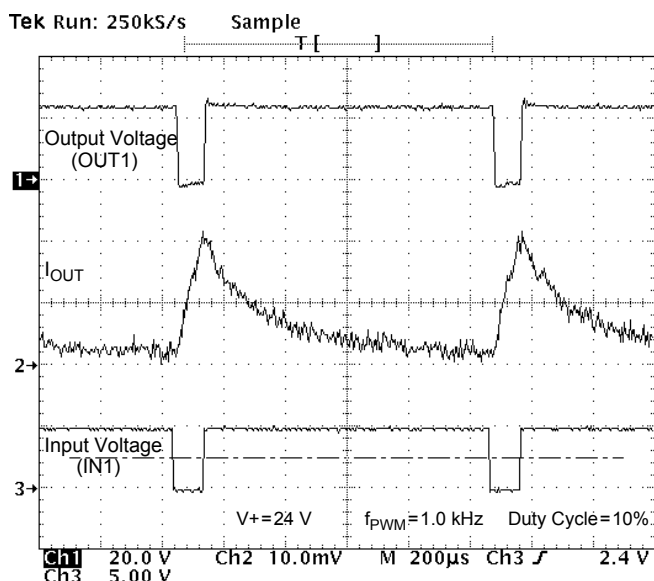

Figure 11. Output Voltage and Current vs. Input Voltage at $V^+ = 24$ V, PMW Frequency of 1.0 kHz, and Duty Cycle of 10%
20. The outputs can be PWM controlled from an external source. This is typically done by holding one input high while applying a PWM pulse train to the other input. The maximum PWM frequency obtainable is a compromise between switching losses and switching frequency. Refer to Typical Switching Waveforms, Figures 11 through 18, pp. 12–13.